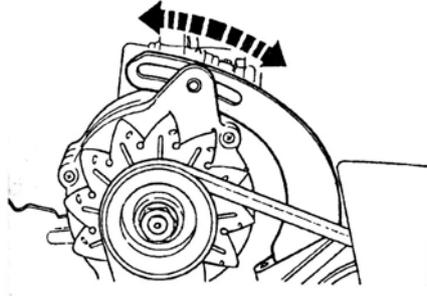

FIG7-17
- 2) If the tension being out of specification, displace the generator to slacken and adjust the belt. (FIG.7-17)